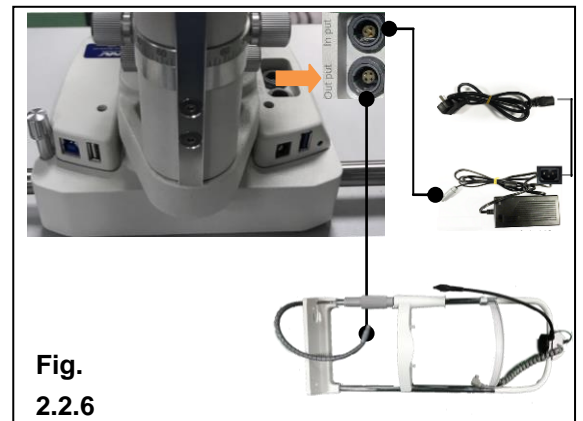

Fig. 2.2.6
6. Refer to Figure 2.2.6. The 4-pin aviation plug of the chin-rest is connected to the "Output" on the base of the slit lamp microscope; the power adapter is connected to the "Input" on the base of the slit lamp microscope.